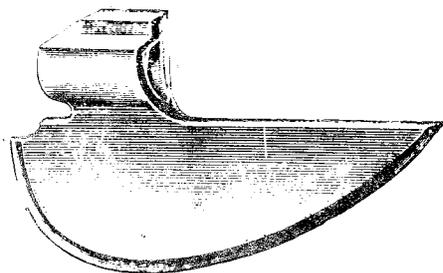

Figure 1: Stellmacherbeil,
The particular wheelwright's axe shown in Figure 1 has an 11.7 inch cutting edge, and it belongs to the Beil family of German axes.
a thumb screw at the top. Figure 1 (on facing page) shows a bit (C) that has been inserted through the side opening and is held in place by pressure of the vertical thumb screw (D).